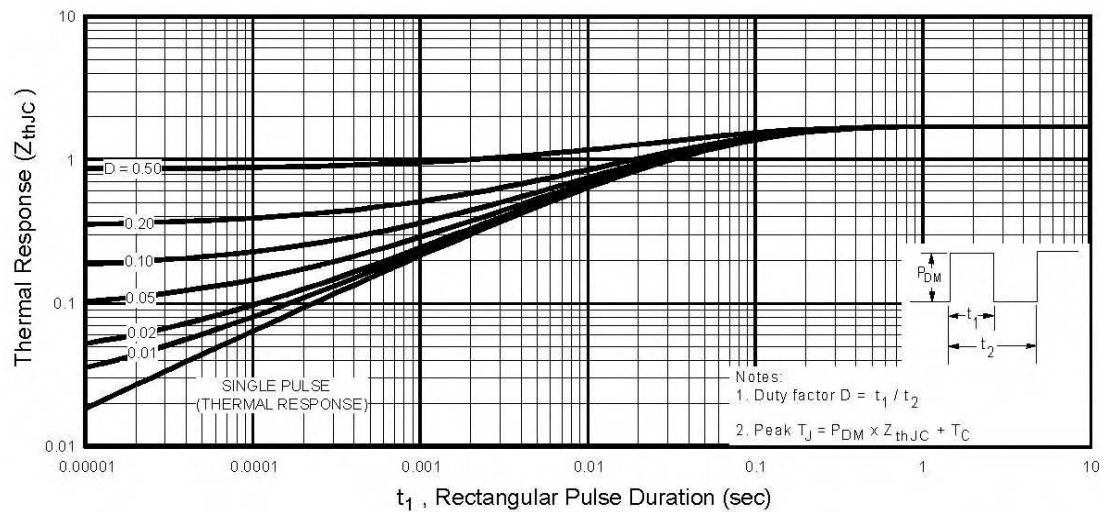

Fig 11. Maximum Effective Transient Thermal Impedance, Junction-to-Case
① Repetitive rating; pulse width limited by max. junction temperature. (See fig. 11)
② $I_{SD} \leq 9.0A, di/dt \leq 120A/\mu s, V_{DD} \leq V_{(BR)DSS}, T_J \leq 150^\circ\text{C}$
③ $t = 60s, f = 60Hz$
④ $V_{DD} = 25V$, starting $T_J = 25^\circ\text{C}$, $L = 2.4mH$